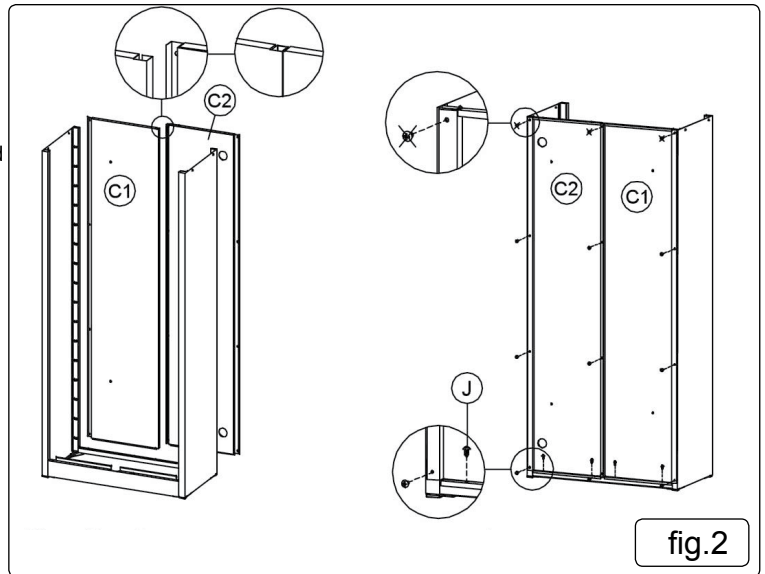

fig.2
Stand unit upright and install the left back panel (C1) followed by the right back panel (C2). Fix the back panels with self tapping screws (J) as per the diagram (fig.2). At this stage, fix all screws except those marked with a cross. You will need an extra pair of hands to assist from the opposite side while you fix the screws.